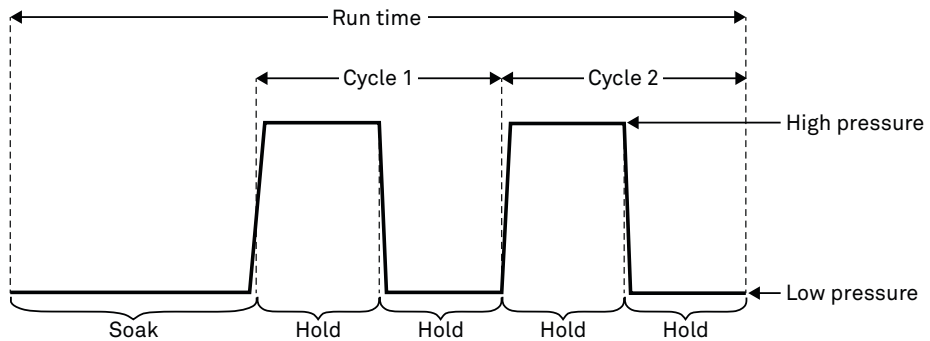

Figure 4 Run time diagram
d. Set the hold time (Figure 4).